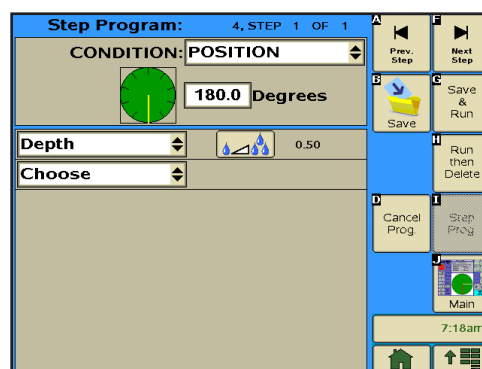

Figure 160-1
14. Program the position condition for this step. Refer to Figure 160-1.